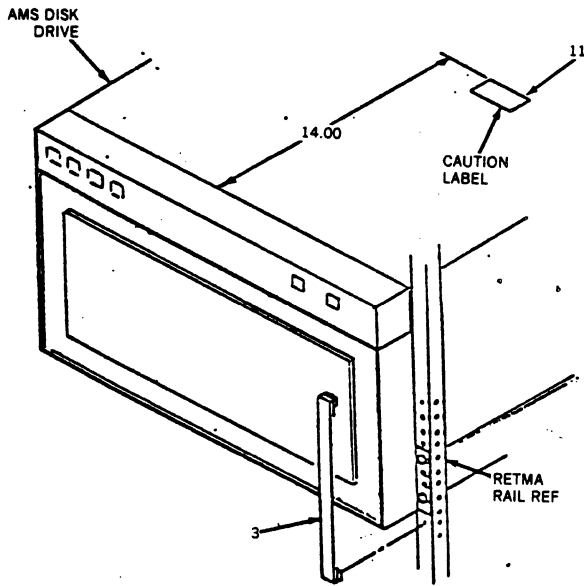

Figure 7-4. Trim Strip and CAUTION Label Installation
14. Mount Trip Strip (3) and CAUTION label (11) as shown in Figure 7-4.